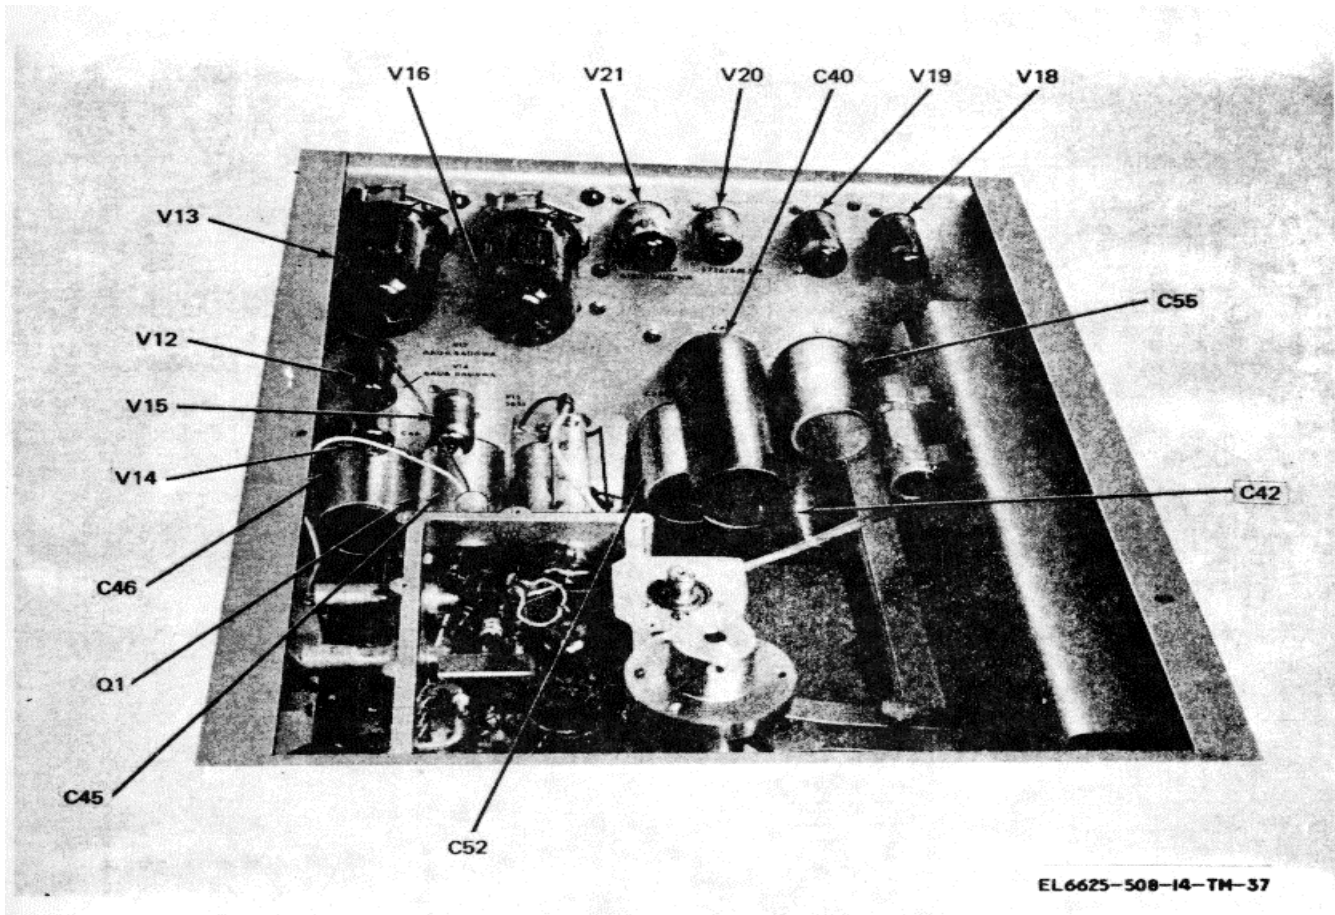

Figure 6-8. Inside rear deck, component locations
b. Illustrations (fig. 6-8 through 6-19) of component locations will supplement the troubleshooting chart and schematic diagrams.